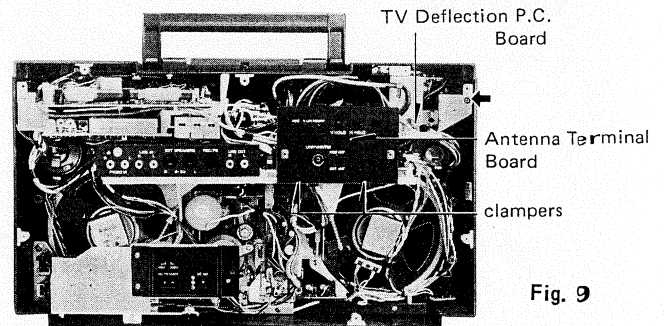

Fig. 9
2. Unfasten a screw indicated in Fig. 9 and pull out the printed circuit board for TV deflection to this side.